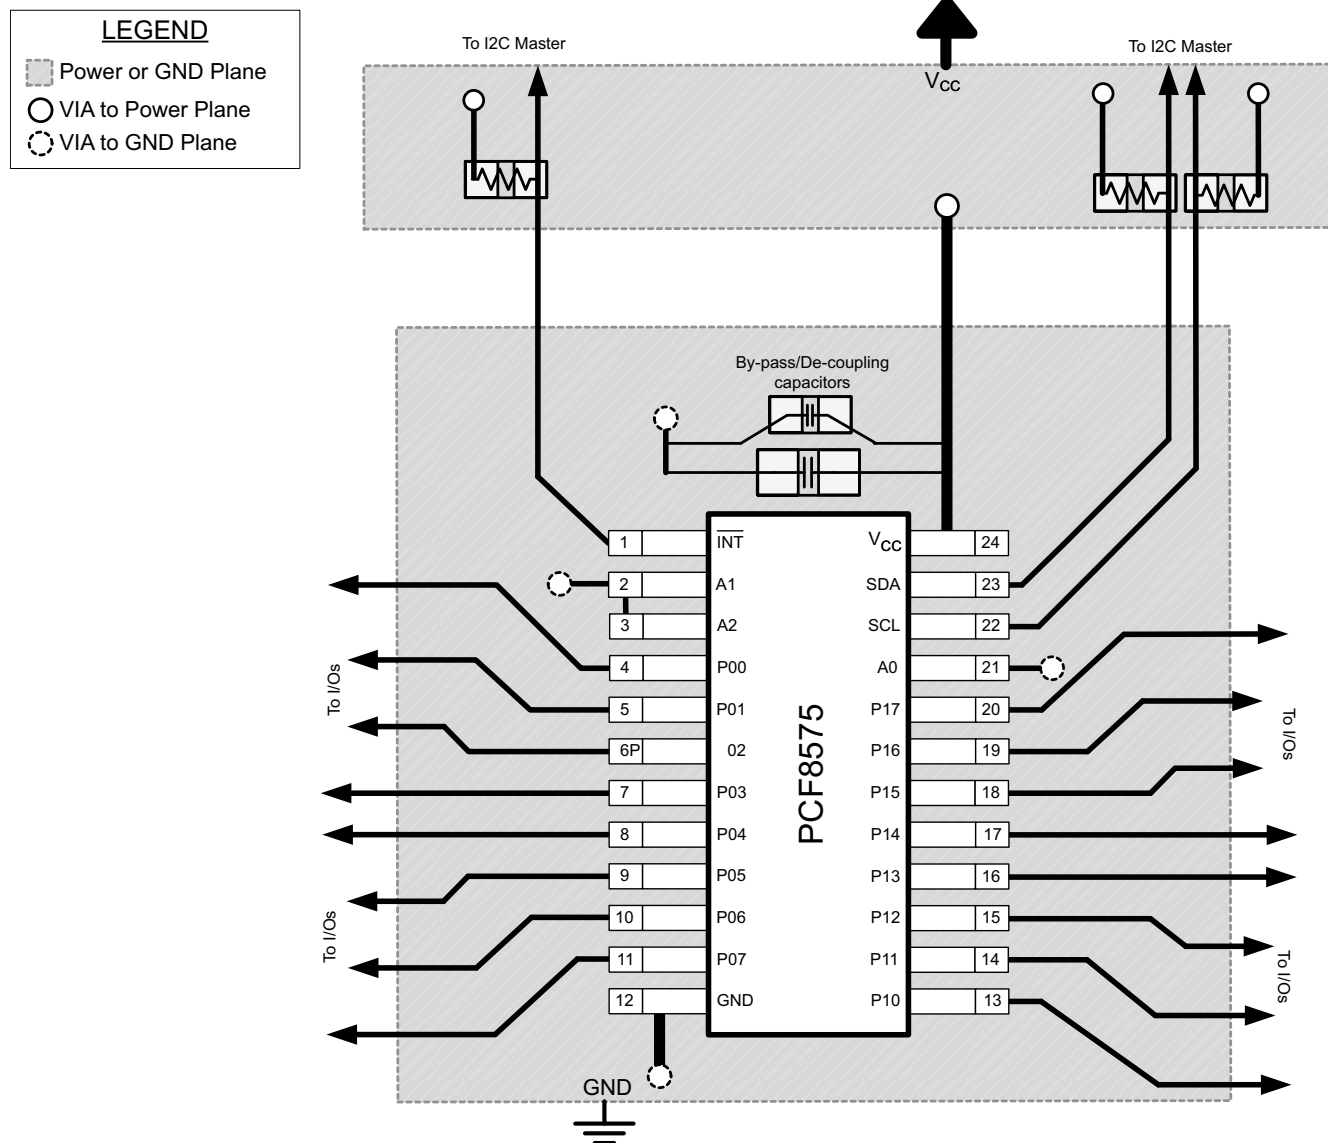

Figure 9-6. Layout Example for PCF8575
In all PCB layouts, it is a best practice to avoid right angles in signal traces, to fan out signal traces away from each other upon leaving the vicinity of an integrated circuit (IC), and to use thicker trace widths to carry higher amounts of current that commonly pass through power and ground traces. By-pass and de-coupling capacitors are commonly used to control the voltage on the VCC pin, using a larger capacitor to provide additional power in the event of a short power supply glitch and a smaller capacitor to filter out high-frequency ripple. These capacitors should be placed as close to the PCF8575 as possible. These best practices are shown in Figure 9-6.
For the layout example provided in Figure 9-6, it would be possible to fabricate a PCB with only 2 layers by using the top layer for signal routing and the bottom layer as a split plane for power (VCC) and ground (GND). However, a 4 layer board is preferable for boards with higher density signal routing. On a 4 layer PCB, it is common to route signals on the top and bottom layer, dedicate one internal layer to a ground plane, and dedicate the other internal layer to a power plane. In a board layout using planes or split planes for power and ground, vias are placed directly next to the surface mount component pad which needs to attach to VCC or GND and the via is connected electrically to the internal layer or the other side of the board. Vias are also used when a signal trace needs to be routed to the opposite side of the board, but this technique is not demonstrated in Figure 9-6.